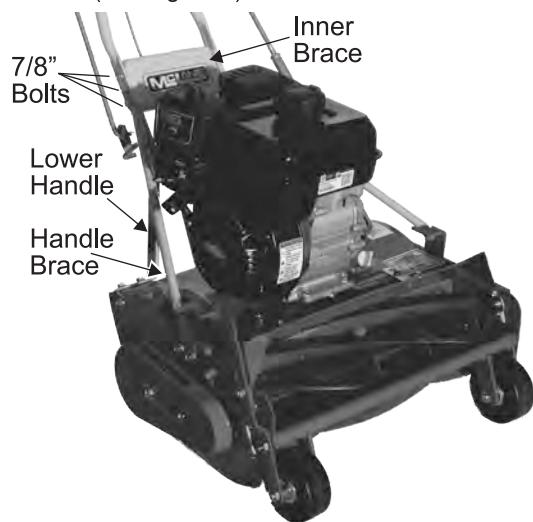

FIGURE 2: Tighten all six handle bolts and nuts SECURELY.
- E.** install one not on each bolt, then tighten the nuts SECURELY (see Figure 2).